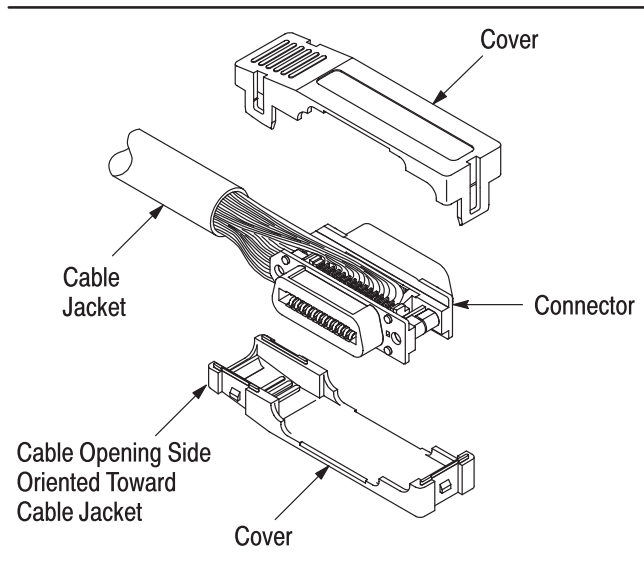

Figure 13
The two-piece plastic cover features four locking latches and a strain-relief cable opening. To install the cover, refer to Figure 13, and proceed as follows:
1. Orient the wires as shown in Figure 13.
2. Place one half of the cover onto the connector. The cable opening side of the cover must be toward the cable jacket. See Figure 13.
3. Place the other half of the cover onto the connector as shown in Figure 13. After the cover is properly aligned, squeeze the cover halves together until they snap together.